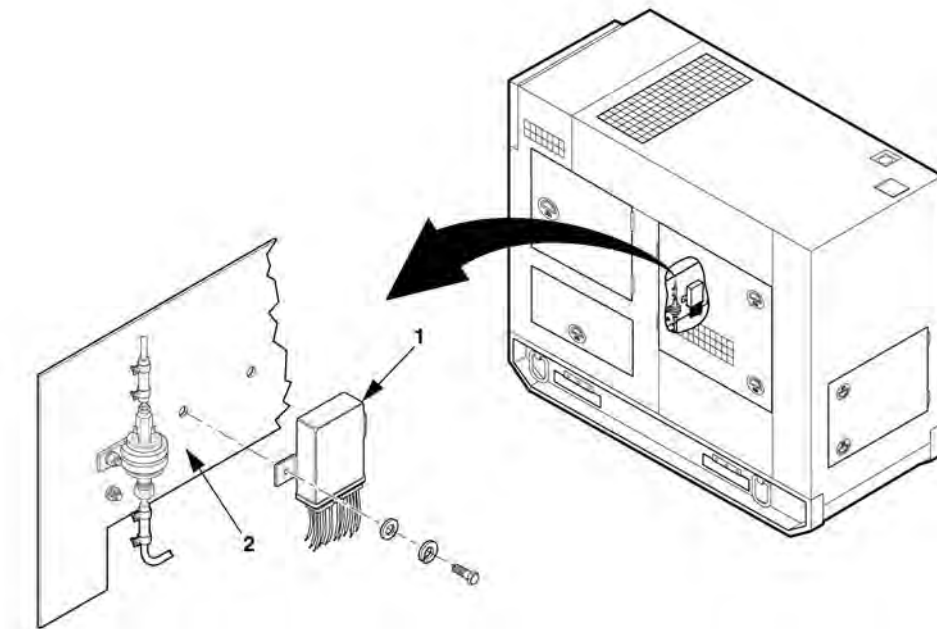

Figure 4-33. Control Unit Removal
- 6. Remove control unit (1), Figure 4-33 from output box (2). Replace existing hardware.